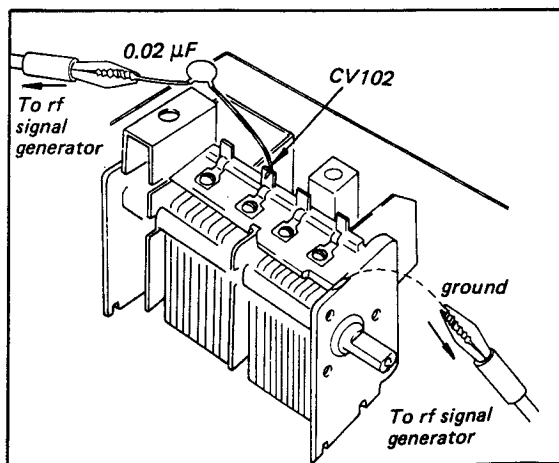

Fig. 3-4. 10.7-MHz signal injection
2. Connect the output cable of the generator across CV102 on the fm (a-m) front-end/i-f amp/MPX and preamplifier board through a 0.02 µF coupling capacitor as shown in Fig. 3-4.